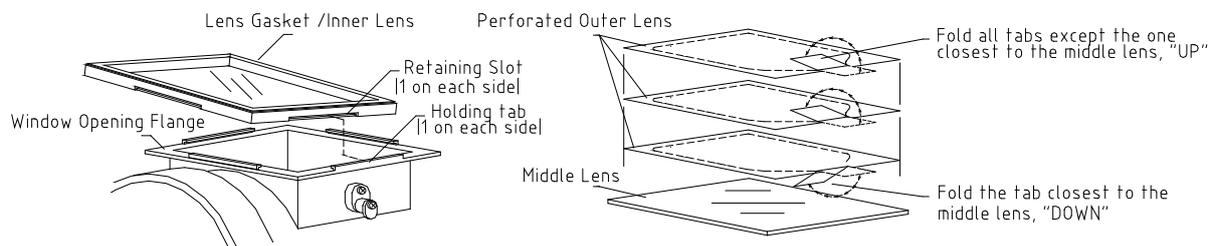

Figure 3: Replacement of mylar lenses
(3) Place new lens	- Clean gasket and replace a new inner lens. - Place the new gasket together with the lens onto the opening from outside. - Place the gasket together with the inner lens onto the flange, and fix one recess over the belonging plug. (see figure 3) - Repeat the above process for all recesses around the helmet.